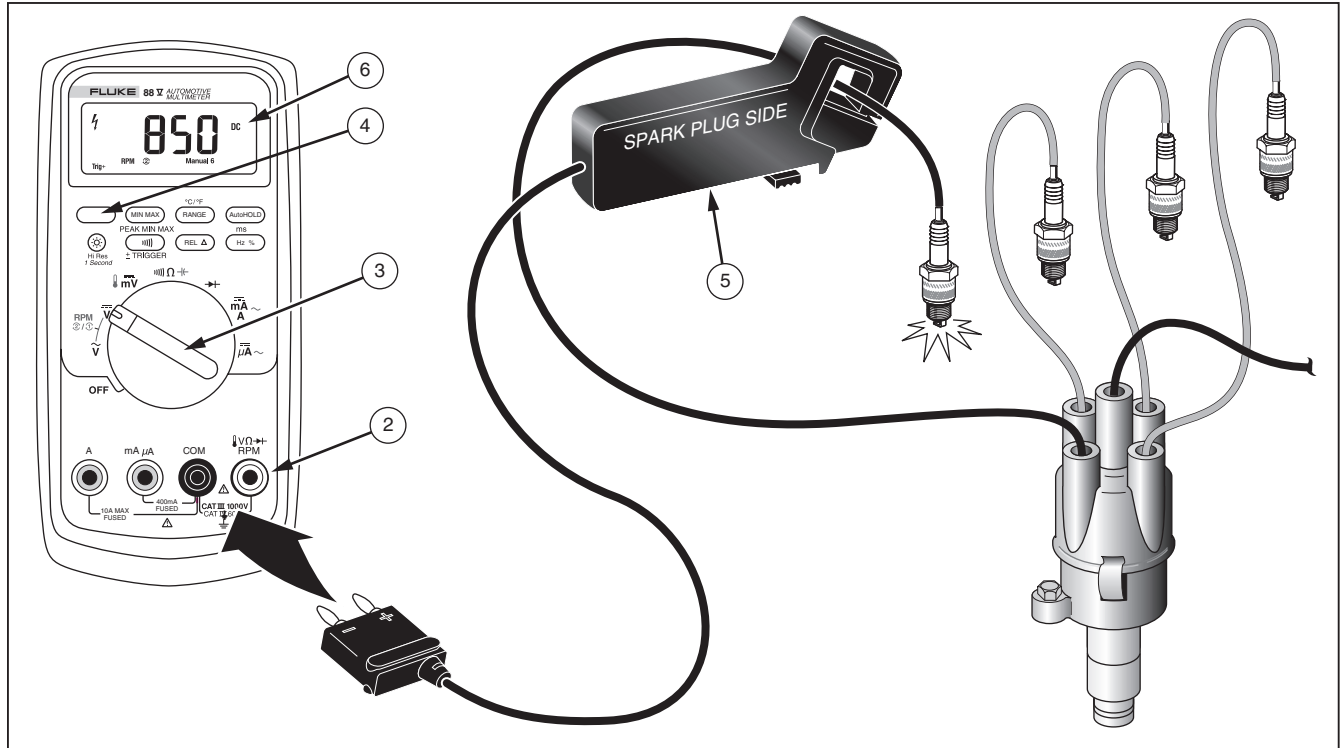

Figure 9. Measuring RPM with Inductive Pickup
2. Connect output plug of Inductive Pickup in the input terminals shown. Make sure the (-) plug is in COM and the (+) is in RPM. See Figure 9.
4. For 4-cycle engines that fire once every other revolution, press once to select RPM ② . For systems that fire every revolution (2-cycle engines), and for DIS waste spark systems, press twice to select RPM ① .